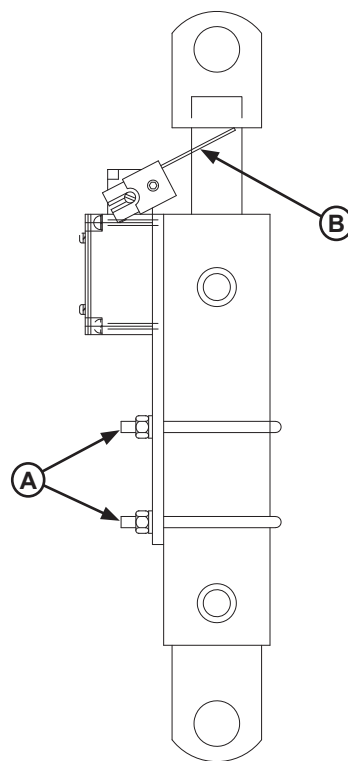

Figure 21
3. Press the RAISE button. The dock leveler should NOT raise. If the leveler did not raise, proceed with step 4. If the leveler did raise, loosen U-bolts (A) and adjust microswitch mounting plate forward so that switch feeler arm (B) is engaged by lip cylinder yoke when stored. See Figure 21.
6. Press the RELEASE button. The vehicle restraint should NOT disengage from the transport vehicle RIG bar or test fixture. If the vehicle restraint did NOT engage, proceed with step 7. If the vehicle restraint DID disengage, loosen U-bolts (A) and adjust microswitch mounting plate backward so that switch feeler arm (B) is not engaged by lip cylinder yoke in below-dock position. See Figure 21.